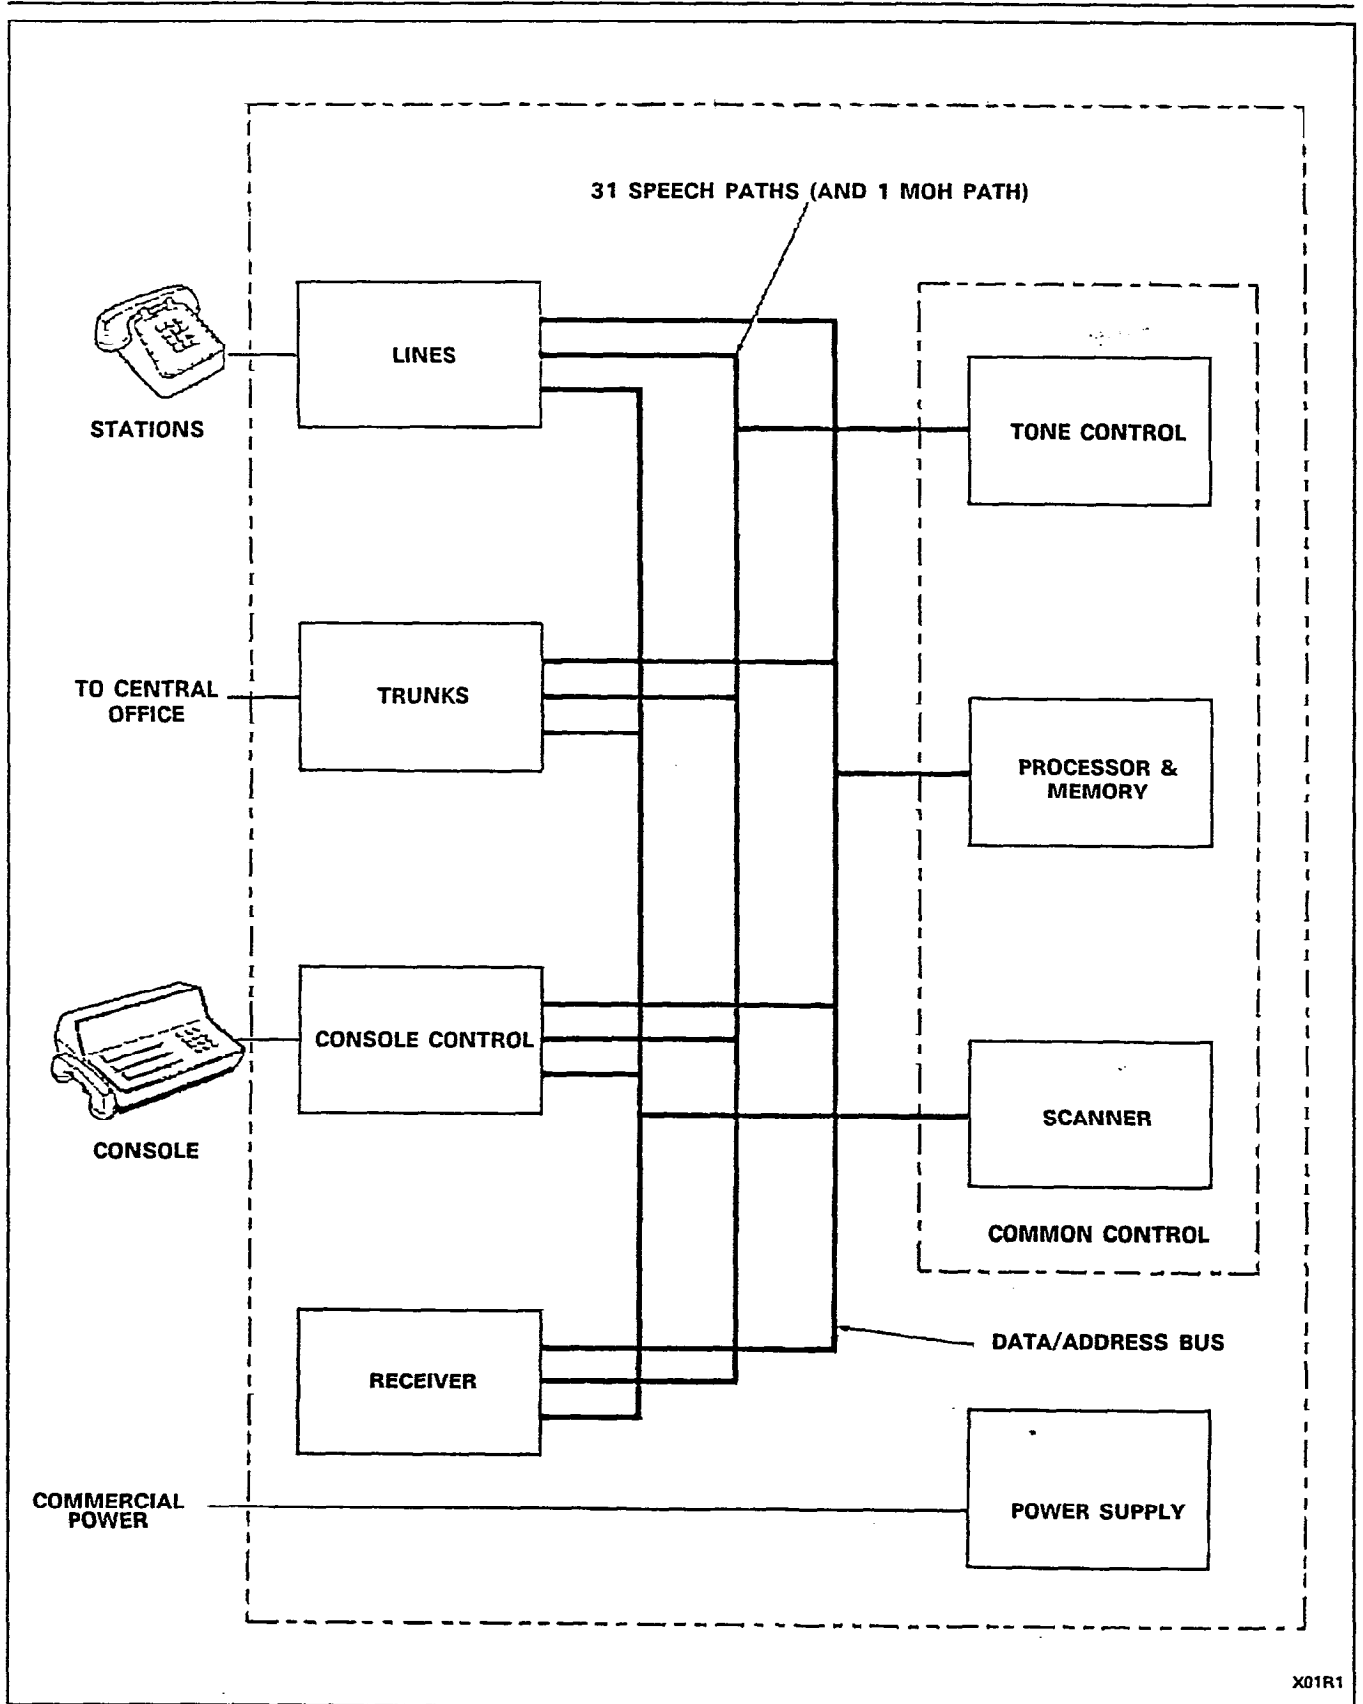

Figure 3-1 System Block Diagram
3.01 The systems are solid-state PABXs employing space-division switching and microprocessor control of call processing. A block diagram of the system is shown in Figure 3-1.